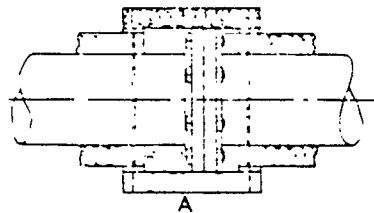

FIGURE 15
7.4 Line flanges shall be insulated with block or pipe insulation equal in thickness to the adjacent pipe covering. The length to be in accordance with Figure 15 and Table 2.